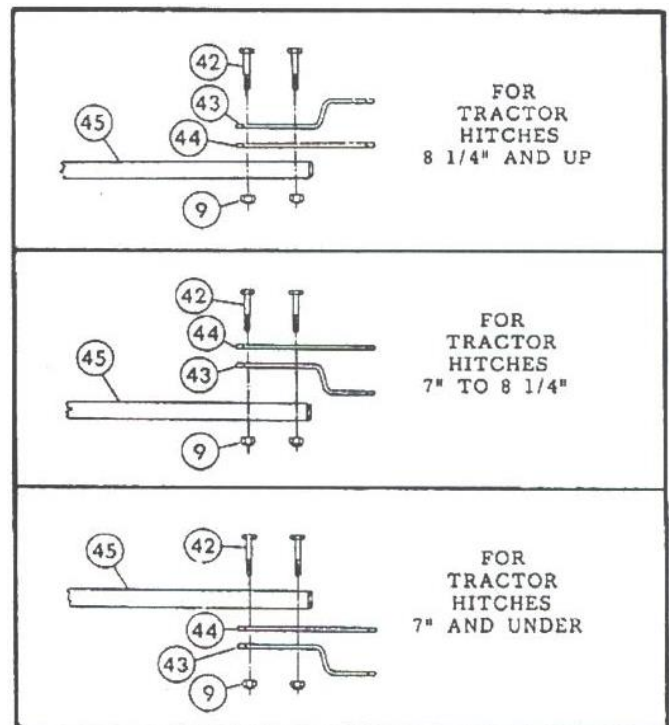

Figure 3
Attach Hitch Brackets to Lawnsweeper Tongue as follows and as shown in Figure 3.
- A) Due to the wide range of tractor sizes and drawbar heights, mounting of the Hitch Brackets may vary, depending on your particular tractor. Top of Lawnsweeper Tongue (45) should be level or approximately 8" off the ground with the Lawnsweeper in the lowest setting.
- B) See Figure 3 and select the recommended mounting to suit your particular tractor hitch height. Then attach Hitch Brackets (43 and 44) with two Bolts (42) and secure with two Lock Nuts (9).